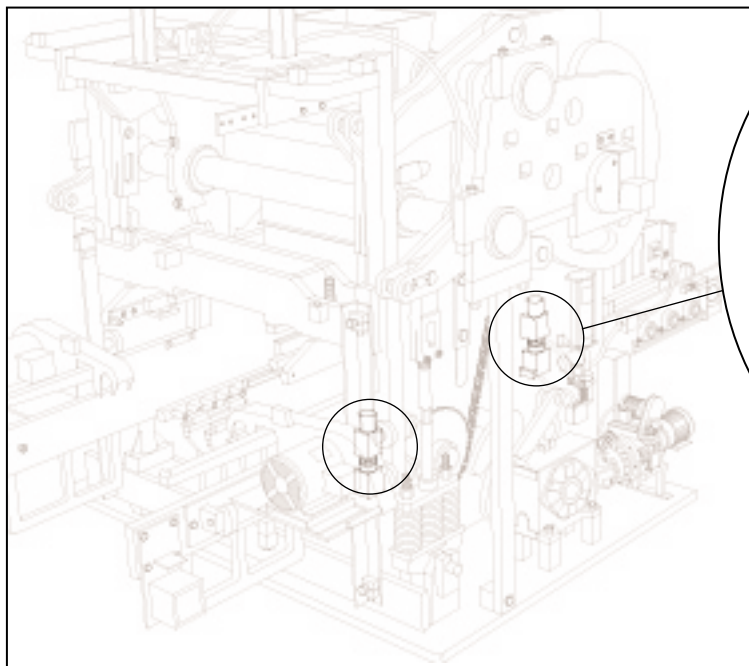

Figure 4.34 BOLTS AT ALL 4 CORNERS. (RIGHT SIDE SHOWN)
- b. Loosen bolts at all 4 corners that secure mold throat assembly (See figure 4.34 and 4.35). Remove top spacers.